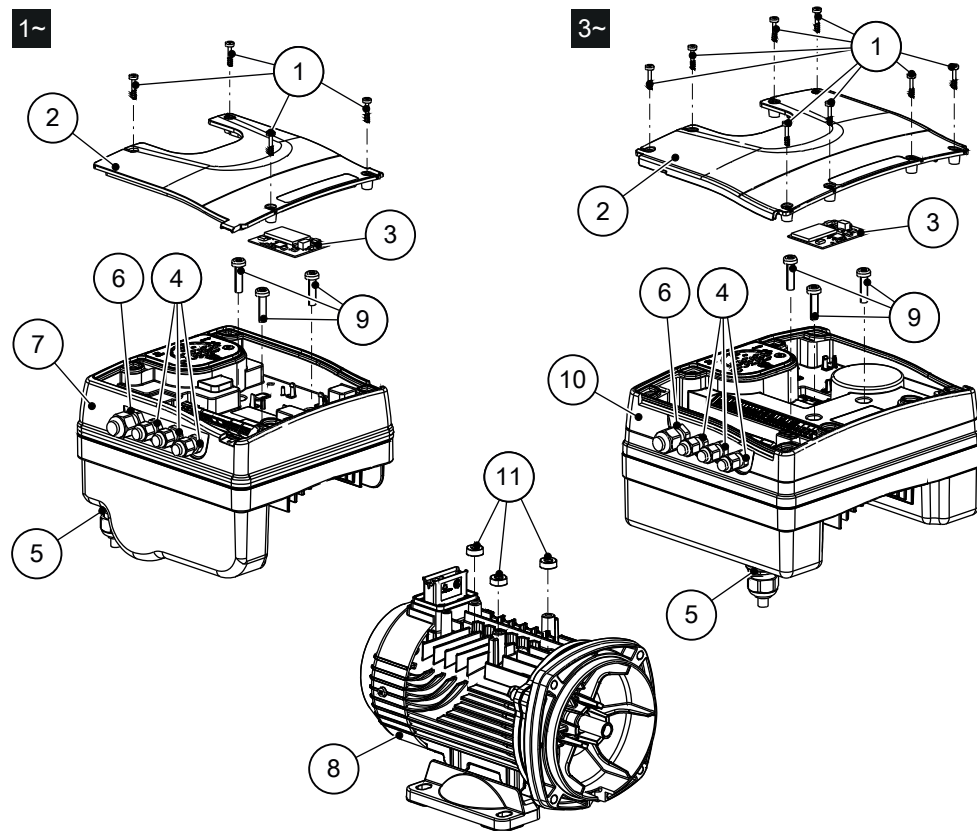

Figure 3: Main components
- Position the unit as shown in Figure 3.